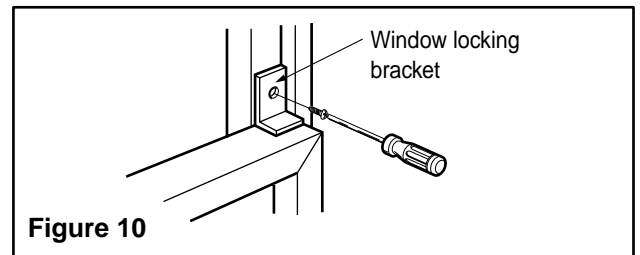

Figure 10
9. Attach the Window locking bracket with a screw (Type C). (See Fig. 10)